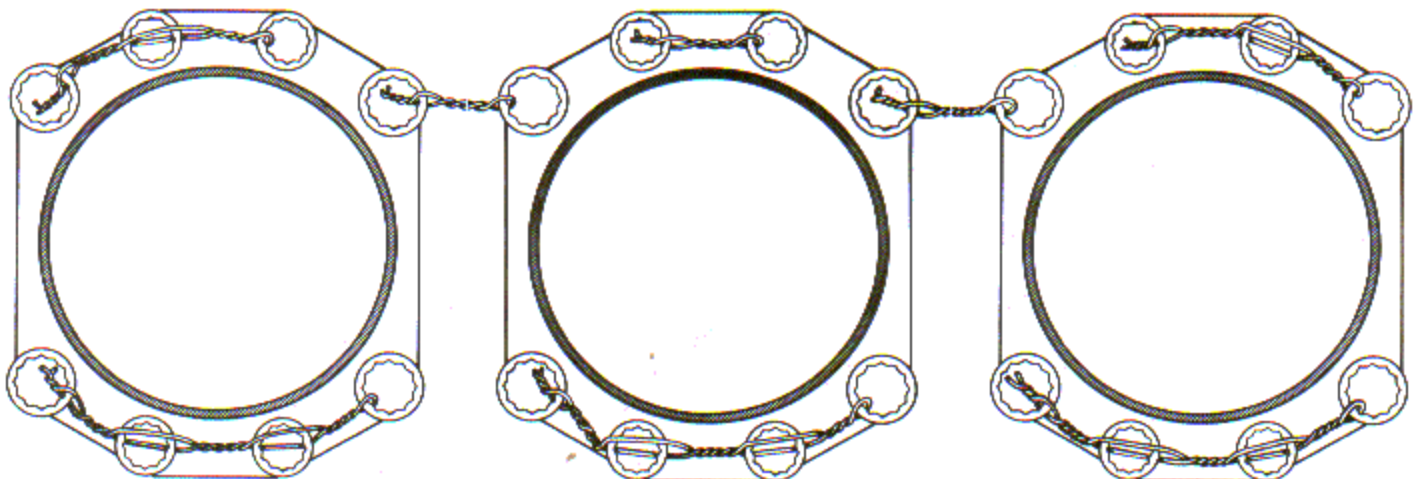

Figure 6-8. Proper Method of Lockwiring Cylinder Base Nuts
2. See Figure 6-8 for proper method of lockwiring cylinder base nuts on IO-540-B1A5 engines.